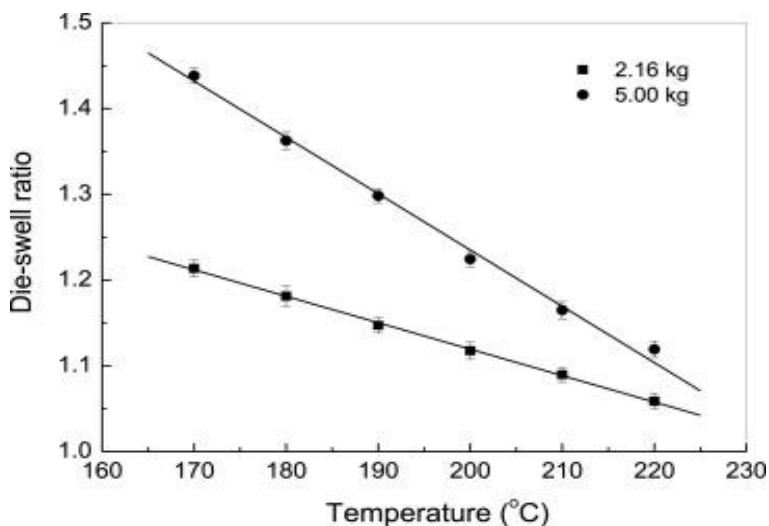

Figure 1: Variation of die swell with temperature
- (ii). After conducting a die swell study, the obtained results as in **Figure 1**. Discuss your findings.